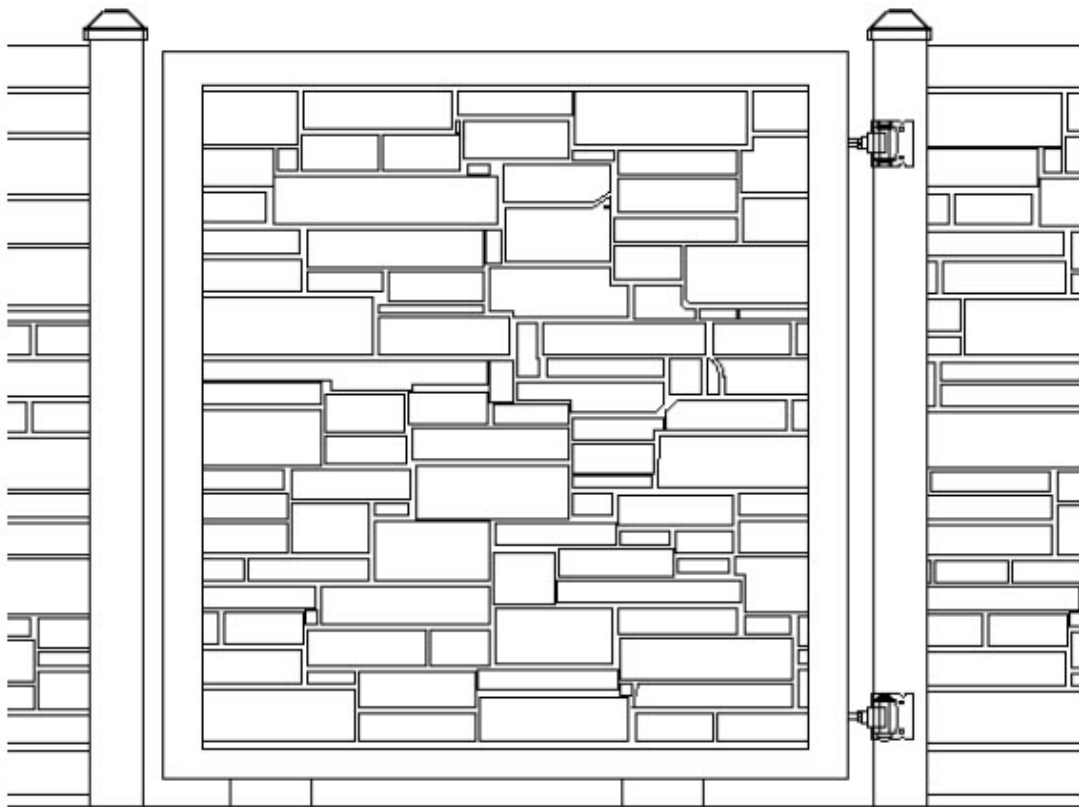

Fig. 14
2. Check if gate is level. Use wooden blocks to make sure gate is level (see Fig. 14), then install the hinges to the gate post with provided screws.